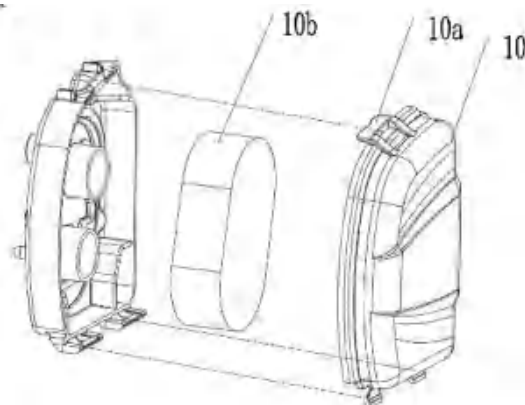

Fig. 25
2. Press two latches (10a) to disengage the air filter cover (10) and remove the air filter cover (10) afterwards (Fig. 25).
4. Close the air filter cover (10) and ensure two latches (10a) engage properly.